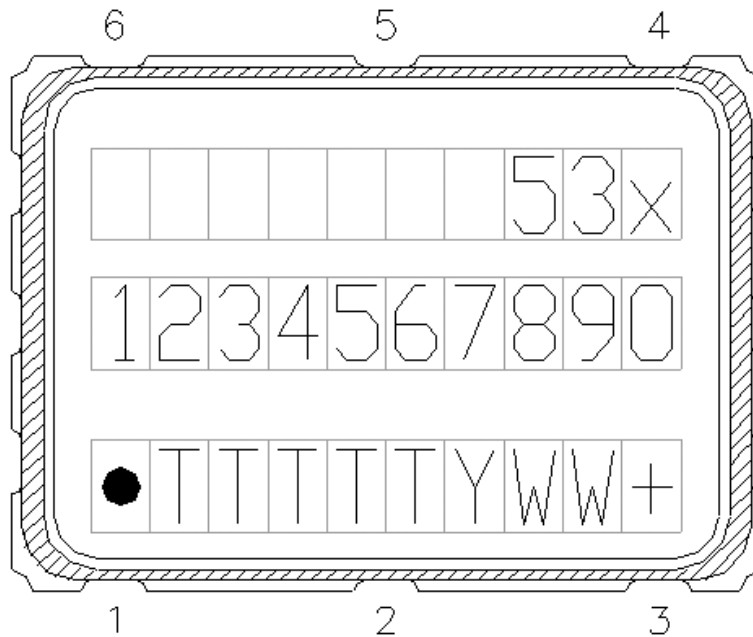

Figure 3. Mark Specification
Figure 3 illustrates the mark specification for the Si530/Si531. Table 13 lists the line information.
- Updated Figure 3 on page 10 and Table 13 on page 10 to reflect specific marking information. Previously, Figure 3 was generic.